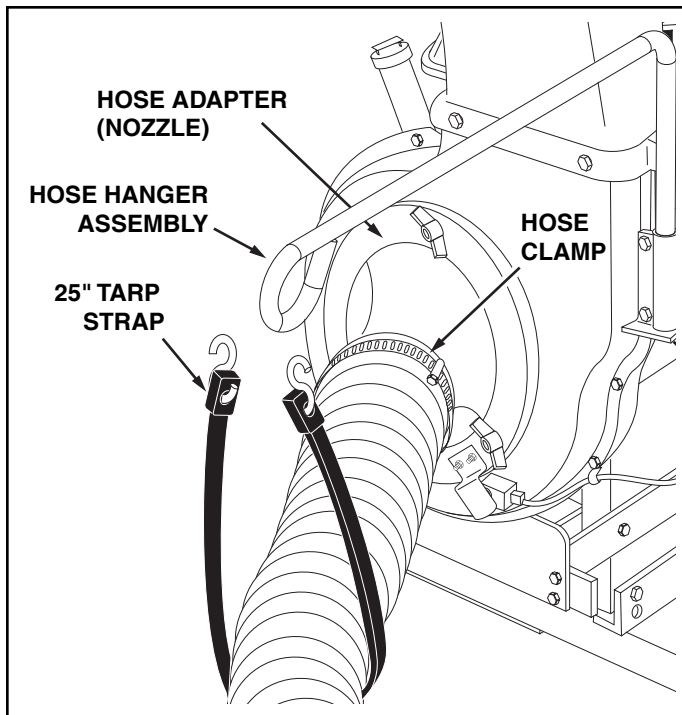

FIGURE 20
34. Place a hose clamp onto one end of hose. Push hose onto hose adapter (nozzle). Tighten hose clamp onto hose and hose adapter. **Do not** collapse hose adapter when tightening clamp. See figure 20.
35. Place the hose hanger rod assembly into the hose hanger bracket on the impeller housing assembly. See figure 20.
36. Loop the 25" tarp strap under the hose. Hook to the hose hanger rod assembly. See figure 20.